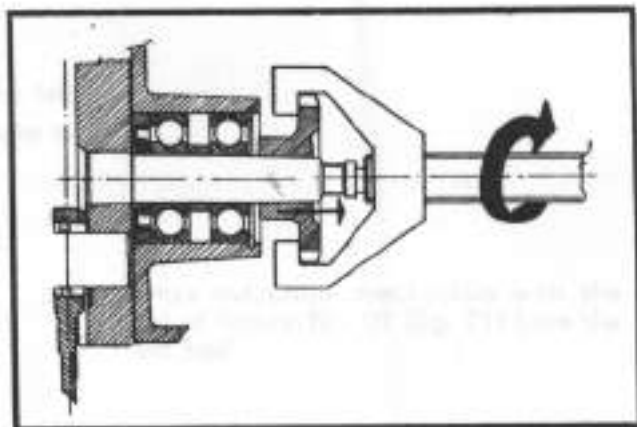

Fig. 17 - Removing the primary chain gear
- pull off chain sprocket with the aid of fixture No. 02 (fig. 17) having tightened the fixture, loosen the sprocket from the cone by a sharp tap on the bolt